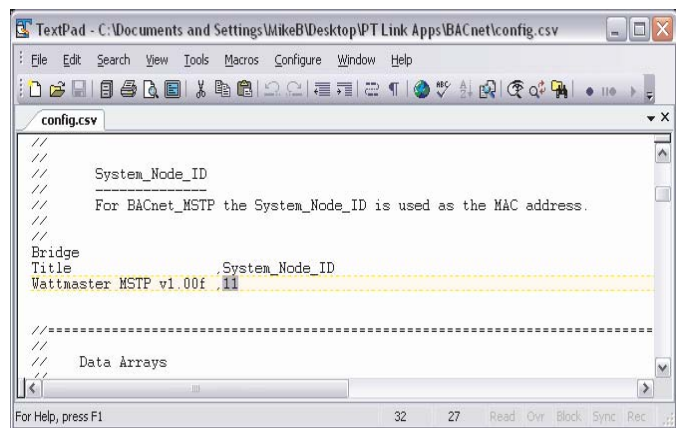

Figure 18: Changing the BACnet MAC address
12.) Inside the text file you can change the System_Node_ID (the BACnet MAC address) which defaults to 11 (**Figure 18**). You can obtain this information from your Building Automation System (BAS) Integrator.